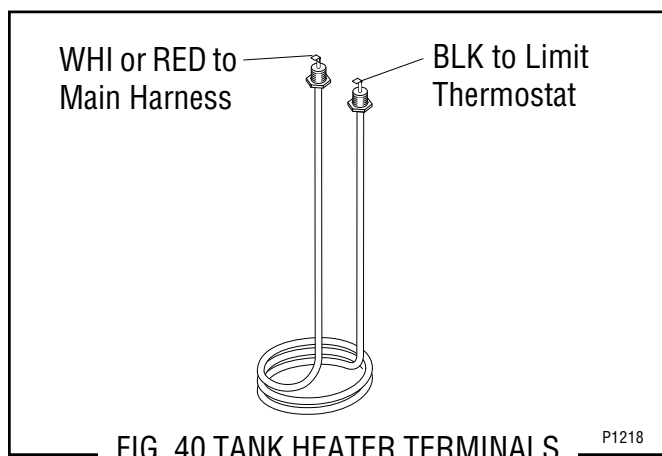

FIG. 40 TANK HEATER TERMINALS
14. Refer to Fig. 40 when reconnecting the wires to the tank heater.